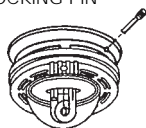

FIGURE 6
**TAMPER RESIST LOCKING PIN;** To make your strobe light somewhat tamper resistant a locking pin has been provided with your strobe light. Using this pin will deter individuals from removing the strobe light from the trim ring. To use the pin insert it into the hole in the side of the strobe light after the strobe light has been installed on the trim ring (see fig. 6). NOTE the tamper resist pin will have to be removed in order to remove the strobe light. This can be done easily with a long nose pliers. Using the long nose pliers, pull the pin out of the hole, it is now possible to remove the strobe light from the trim ring.